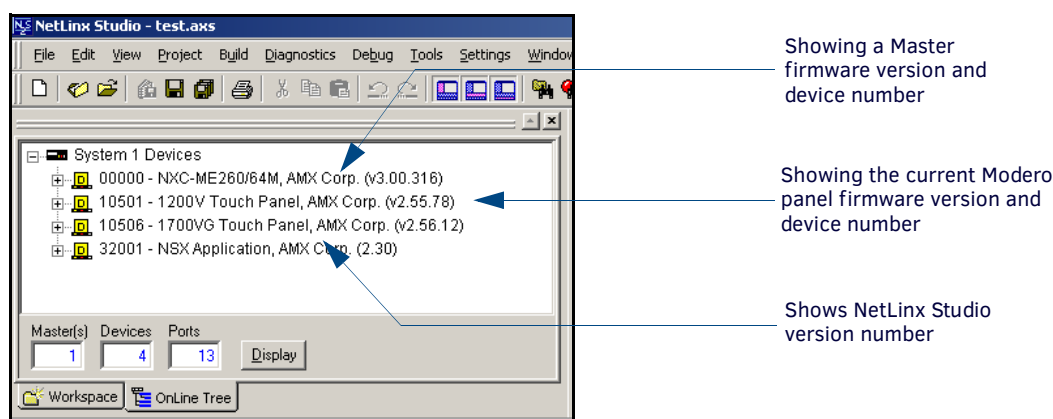

FIG. 94 NetLinX Workspace window (showing connected Modero panel)
3. After the Communication Verification dialog window verifies active communication between the PC and the Master, verify the panel appears in the **OnLine Tree** tab of the Workspace window (FIG. 94). *The default Modero panel value is 10001.*